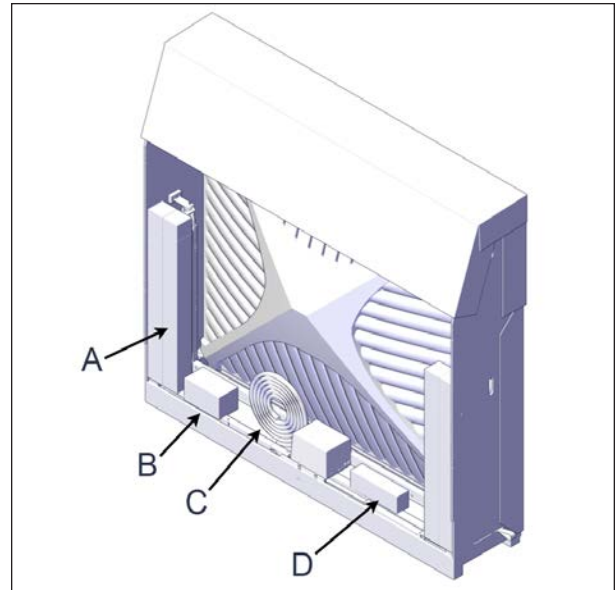

FIGURE 20: REMOVE COMPONENTS FROM CRATE
4. Remove the hardware box, the foam spacers and the seal from the crate. Temporarily put these items in a safe location see Figure 20.
6. Remove the sleeve boxes (4) from the crate and keep in a safe location see Figure 20.